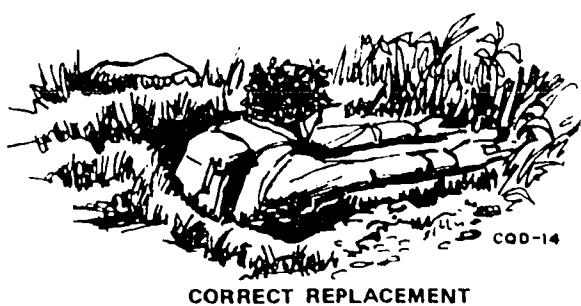

Figure 3-5. Concealing construction spoil.
**Construction.** Before any excavation is started, all natural materials for camouflage construction such as turf, sod, leaves, forest humus, or snow, must be removed. This material is placed or scraped aside so as to not interfere with the digging of the position. It is replaced over the site when the work is completed (see fig. 3-5). Soil (spoil) that is not used must be carried away and dumped in a concealed place, such as under bushes and low trees. Concealment is vital during camouflage construction. To prevent detection of camouflage construction that has little or no overhead cover, camouflage nets can be suspended above the position. The nets are placed so as to permit unhampered excavation work. Workers must then confine their activities to the area beneath the camouflage.